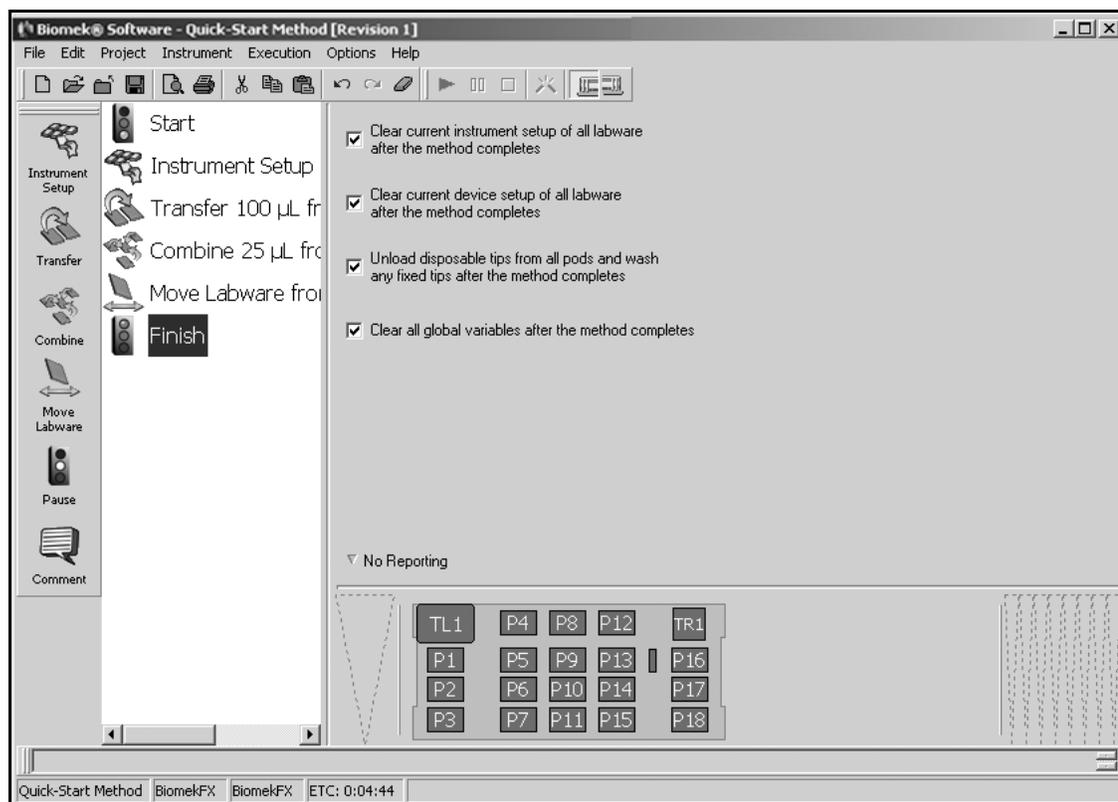

Figure 2-19. Quick-Start method saved and named
2. In Method Name, enter Quick-Start Method and choose **OK**. The method editor now looks like Figure 2-19.